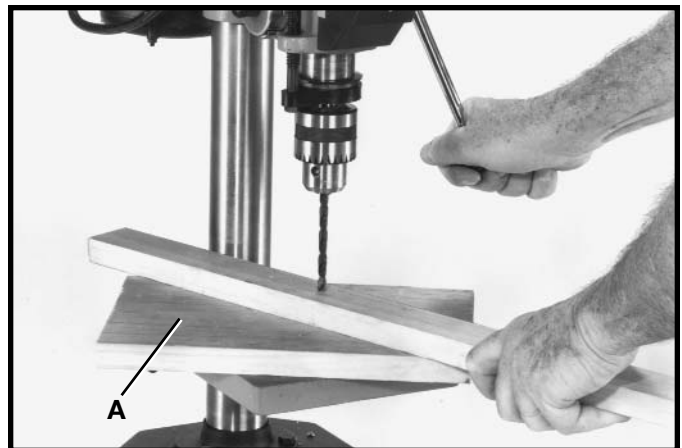

Fig. 33
Feed slowly when the bit is about to cut through the wood to prevent splintering the bottom face. Use a scrap piece of wood (A) Fig. 33, for a base block under the work; this helps to reduce splintering and protects the point of the bit.